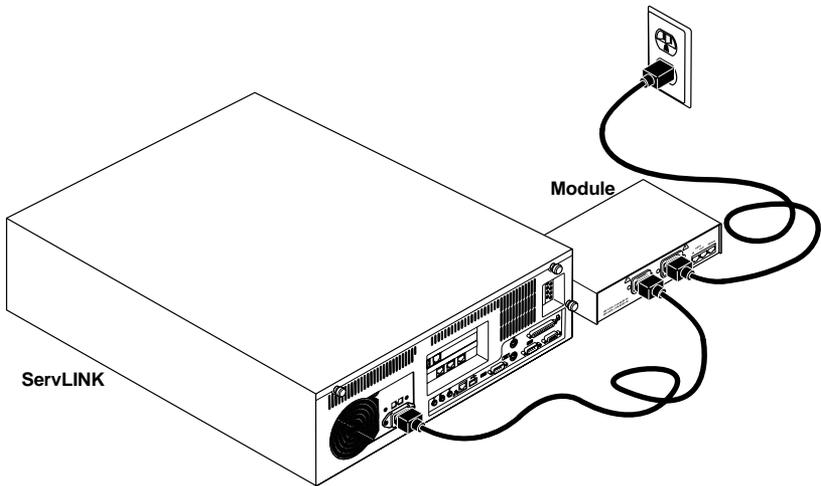

Figure 3-10. Attaching the power cords.
5. Finally, run the ServLINK’s own power cord from its own inlet to a properly rated wall outlet. The ServLINK, the Module, and the wall outlet should now be interconnected, power-wise, as shown in Figure 3-10.